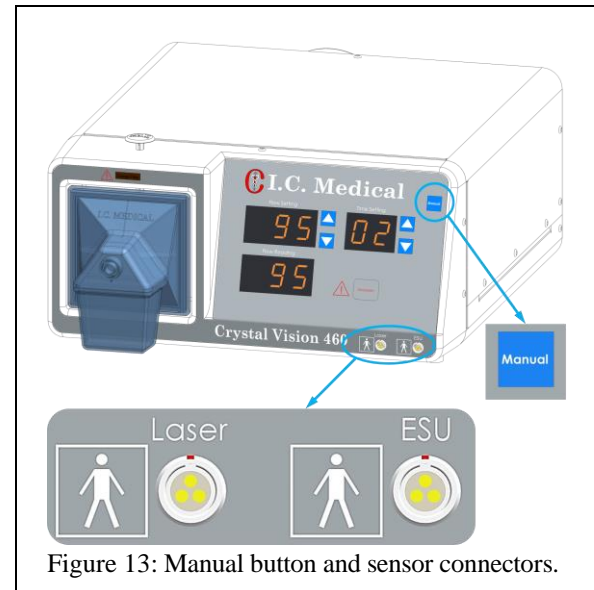

Figure 13: Manual button and sensor connectors.
2. MANUAL button (Figure 13) used to turn the CRYSTAL VISION® ON when the surgeon is not activating a smoke-producing device. It can be used to clear smoke and plume if more than one device is used and only one sensor is available. This frequently occurs during laser cases when a sensor is attached to the laser foot pedal and other sensors are not available to be attached to an Electrosurgical Unit (ESU).
3. LASER CONNECTOR (Figure 13) is the input for the LASER SENSOR CABLE. In reality, both LASER & ESU connectors are identical and either will accept all standard I.C. Medical sensor assemblies.
4. ESU CONNECTOR (Figure 13) is the input for the ESU SENSOR CABLE. This sensor can be used to activate the CRYSTAL VISION®.